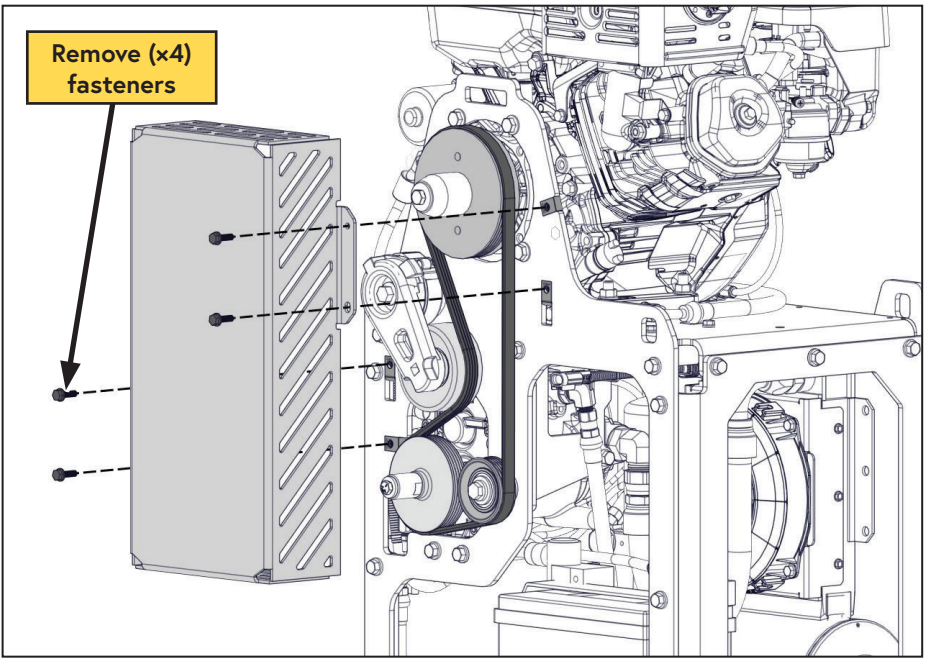

Figure 66 — Inspecting the drive belt
- ☐ Remove the (x4) fasteners from the belt guard and remove the belt guard (Figure 66).